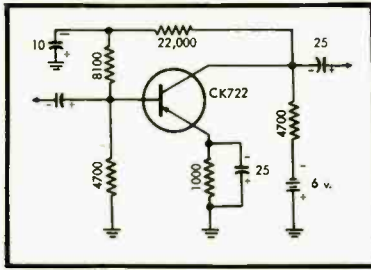

Fig. 4. A practical stage which can be put into the form of Fig. 2 for calculating the bias stability, which happens to be equal to 2.96.
A large number of circuit configurations can be expressed as special cases of the circuit shown in Fig. 2. The circuit of Fig. 1, for example, is a special case of Fig. 2—with R_3 and R_4 equal to 0. Similarly, a very popular two-battery bias circuit (Fig. 3) is a special case of Fig. 2, with R_5 , R_2 and R_6 equal to 0, and R_1 equal to ∞ , and with the bias batteries moved about somewhat. Figure 4 shows a practical amplifier circuit, whose d.c. bias circuit is a special case of Fig. 2, with $R_1 = 1000$, $R_2 = 4700$, $R_3 = 30,100$, $R_4 = 4700$, $R_5 = 0$, and $R_6 = 0$. For the reason that most popular configurations can be expressed as special cases of Fig. 2, we will derive the formula for S for this case, and then make appropriate changes to obtain formulas for S for special cases. Analyzing the circuit of Fig. 2, we obtain, after a somewhat lengthy argument, a value for S , as in Eq. (10):